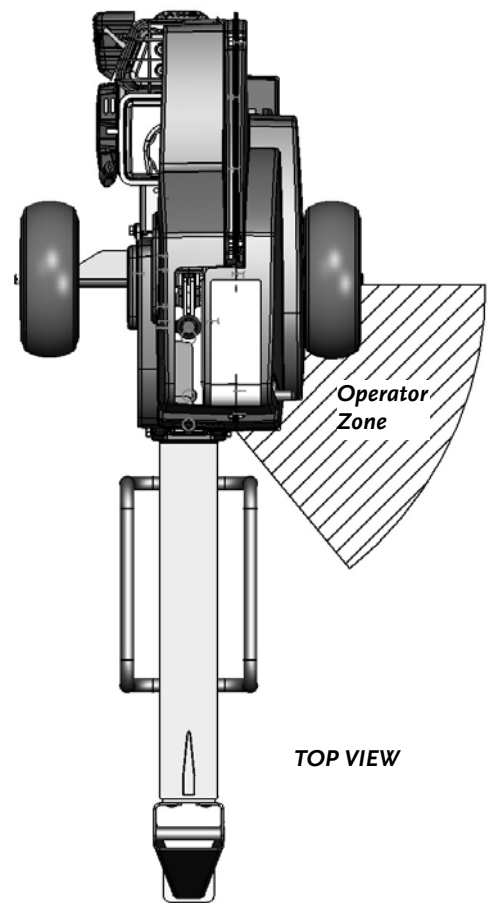

Figure 20
- When operating the Log Splitter, make sure you are standing in the safe operating area (OPERATOR ZONE) as shown in **Figure 20**. You must stay in the safe operating area at all times when the ram is in motion (whether extending or retracting). Never place any part of your body into a position that causes an unsafe operating condition.